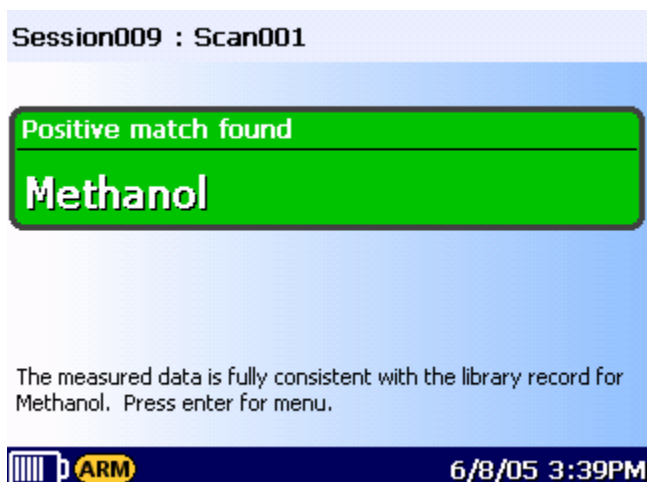

Figure 2-8: Results Screen
- i) At the conclusion of the analysis, the *Results* screen (Figure 2-8) will be presented, indicating that a positive match for the library record of pure methanol was obtained.